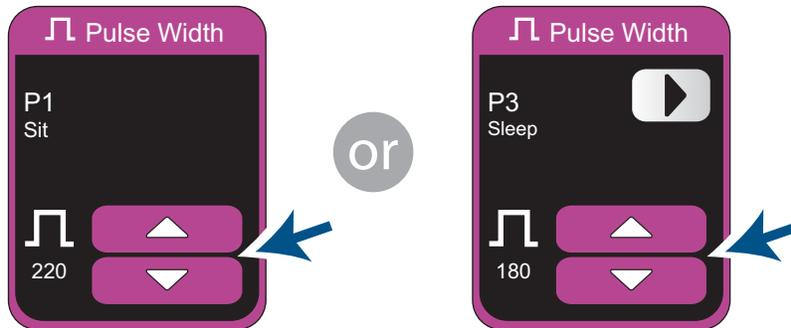

Figure 25. Increasing or decreasing the pulse width
3. Tap  or  to increase or decrease the pulse width of the program (Figure 25). If  is displayed, the active program has more than one sub-program, and your doctor has allowed you the option of fine-tuning your stimulation by increasing or decreasing the pulse width of each sub-program separately. Unlike strength, you cannot adjust the pulse width of all sub-programs at the same time.